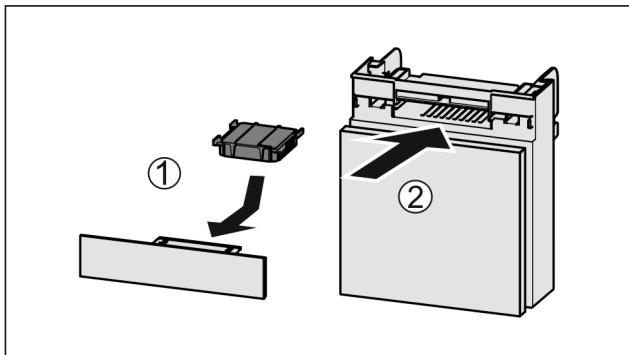

Fig. 119
- ▶ Insert the carbon filter as shown in the diagram Fig. 119 (1).
- ▶ Push the compartment in Fig. 119 (2).